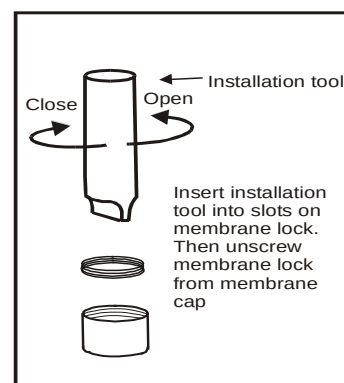

Figure 64: Use tool to take
5. Using the installation tool, unscrew and remove the membrane lock from the membrane cap. See Figure 64 on the following page.